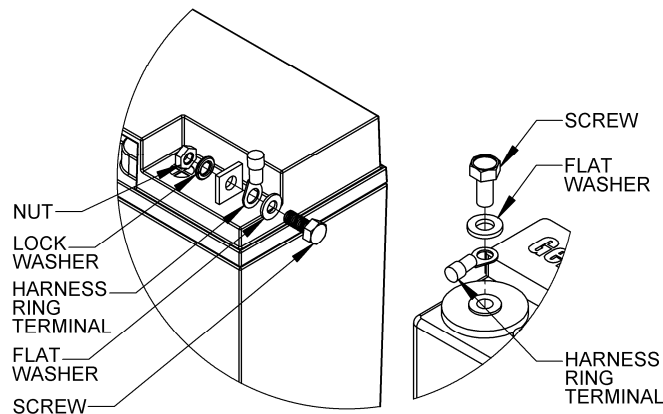

Figure 6-9: Connecting harnessing to the batteries
2. Connect the harness as shown in Figure 6-9.